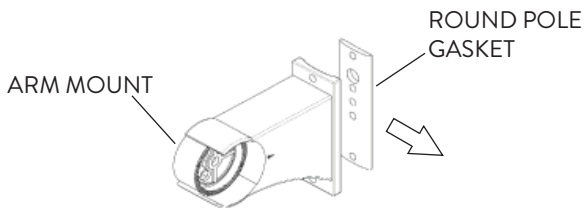

FIG. 23
- 3 If the FFLA/2 fixture is being installed to a Square Pole, remove the Round Pole Gasket (Fig. 23).